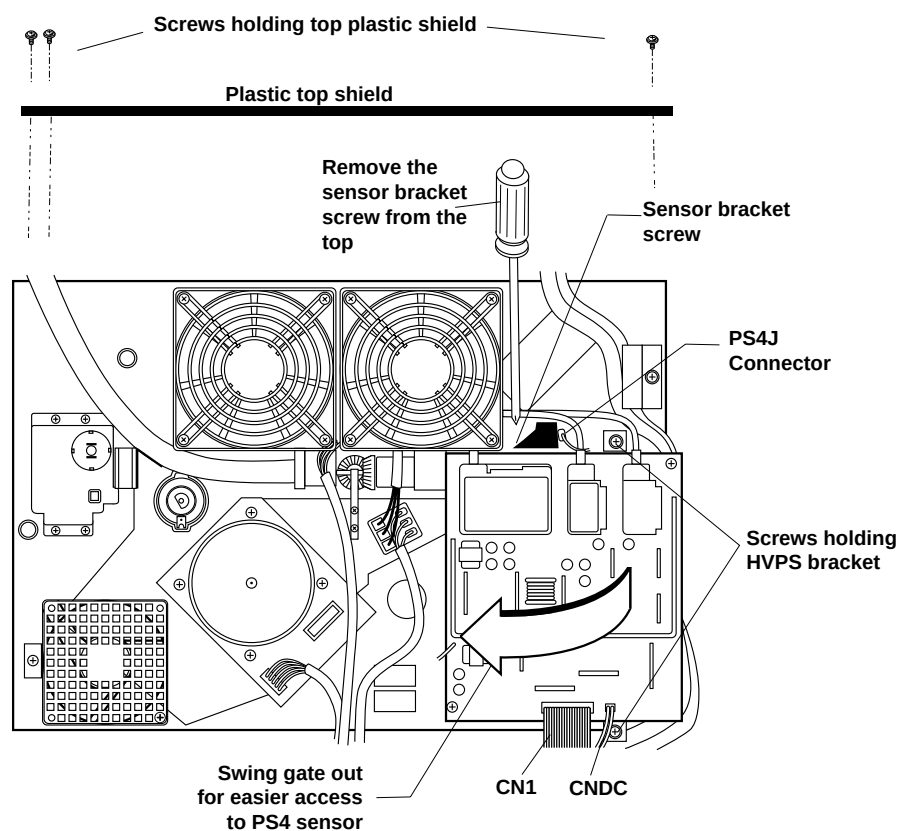

Figure 5-22 Rear Panel
- Step 6** Disconnect the high voltage power supply (HVPS) connectors CN1 and CNDC (see Figure 5-22).